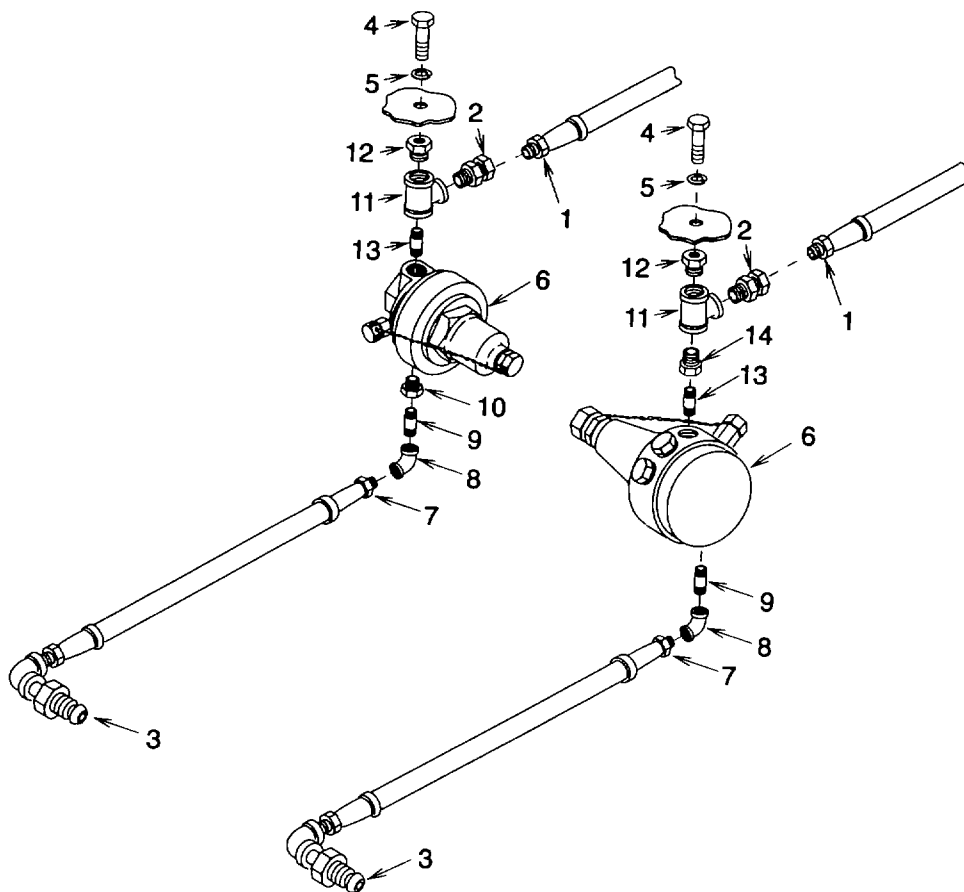

Figure 4-10. Regulators
a. Removal (See figure4-10.)
- (1) Disconnect fitting (1) from swivel adapter (2).
- (2) Disconnect fitting (3) from cylinder valve.
- (3) Remove screw (4), lock washer (5) and regulator (6) assembly
- (4) Disconnect fitting (7) from elbow (8).
- (5) Disconnect elbow (8) from nipple (9).
- (6) Dry chemical system only:
- (a) Disconnect nipple (9) from bushing (10).
- (b) Disconnect bushing (10) from regulator (6)
- (7) AFFF system only: